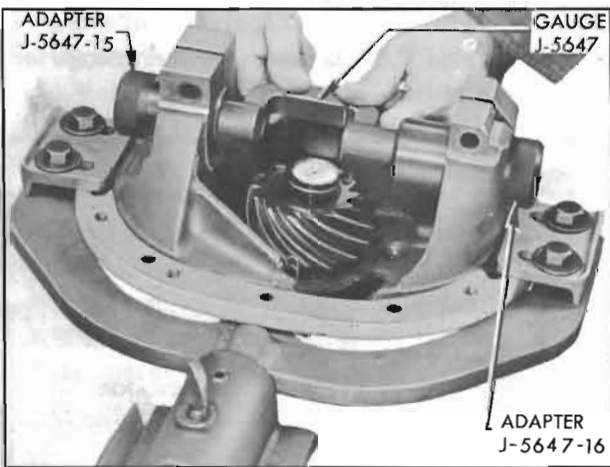

Figure 6-31—Checking Pinion Setting
8. Drive a wedge into each pedestal split and spread them just enough so that Adapters J-5647-17 will slip in. Then place the indicator gauge in the carrier as follows: (see figure 6-31).